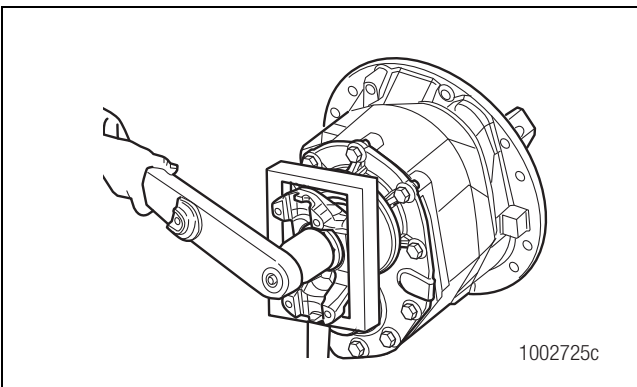

Figure 23
2. Install a yoke bar or other suitable tool to hold the yoke in place. Figure 23.
3. Apply Loctite® 270 or 277 threadlocker in a 0.12-inch (3.1 mm) bead around the inside diameter of the yoke nut. Install the washer and yoke nut onto the input shaft and tighten to 800 ± 45 lb-ft (1090 ± 60 N•m). Figure 23.